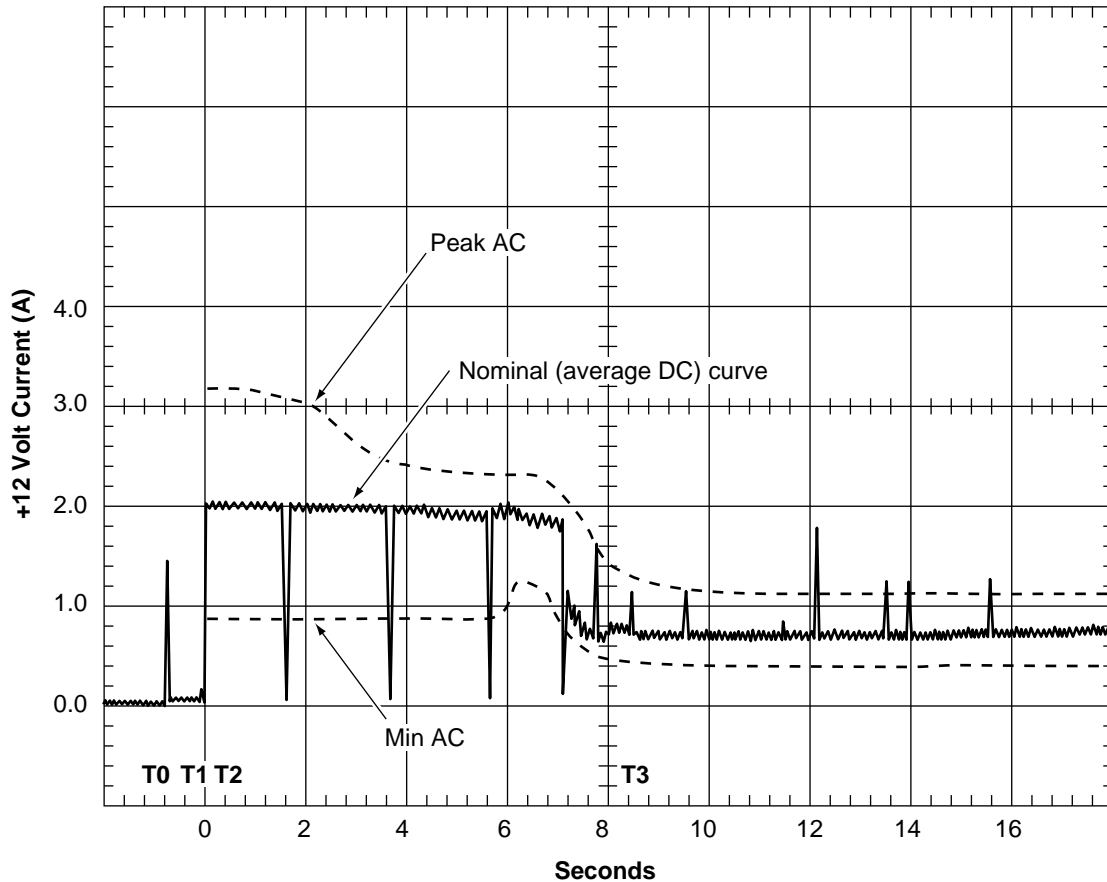

Figure 3. Typical Cheetah 4LP family drive +12 V current profile
- [3] See +12V current profile in Figure 3.
Figure 3 identifies the drive +12 V current profile. The current during the various times is as shown: